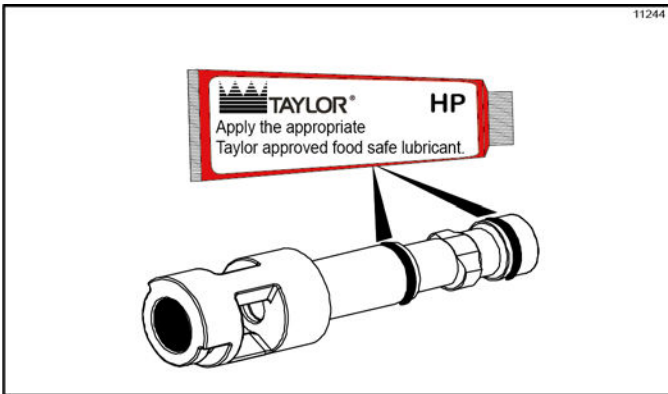

Figure 6-6
6. Assemble the draw valve spinner assembly. Inspect draw valve O-rings and replace if cut or nicked. If draw valve O-rings are in good condition, slide the two O-rings into the grooves of the draw valve and lubricate. (See Figure 6-6.)